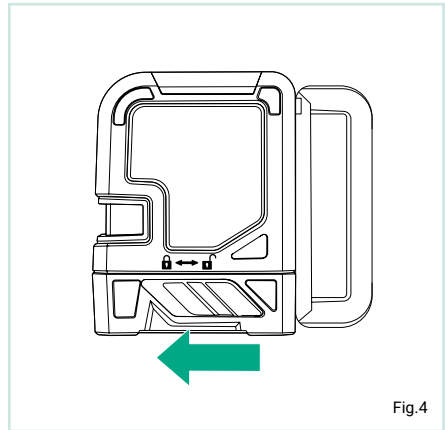
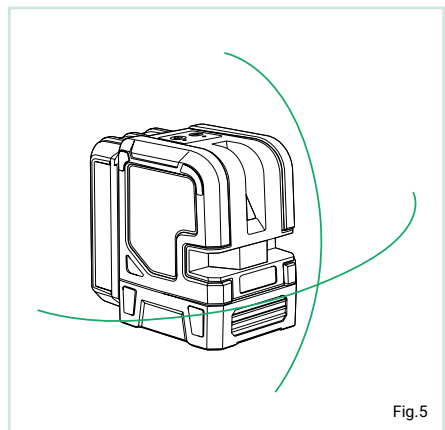

Fig.4
Fig.5
- To turn the laser level on, slide the **power / locking switch** to the "unlocked" position (Fig. 4). Self levelling will commence and the horizontal and vertical beams will activate (Fig.5). The **self-levelling / manual mode indicator** LED will be solid green.